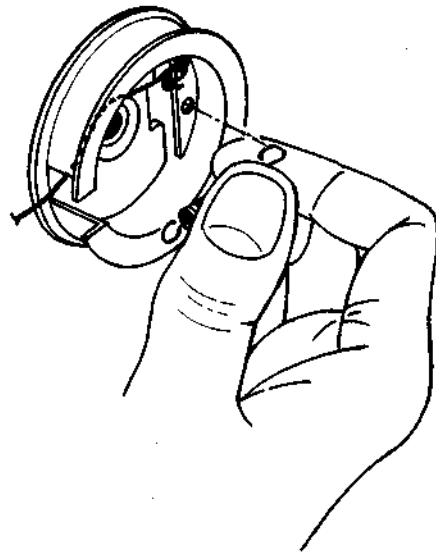

Fig. 2-11-1 Dial Cord Stringing Start and Finish Point
- (d) Tie one end of the cord to one of the holes in the drive drum and hook the spring onto the other hole, See Fig. 2-11-1. Install the drum and tighten its holding screw.